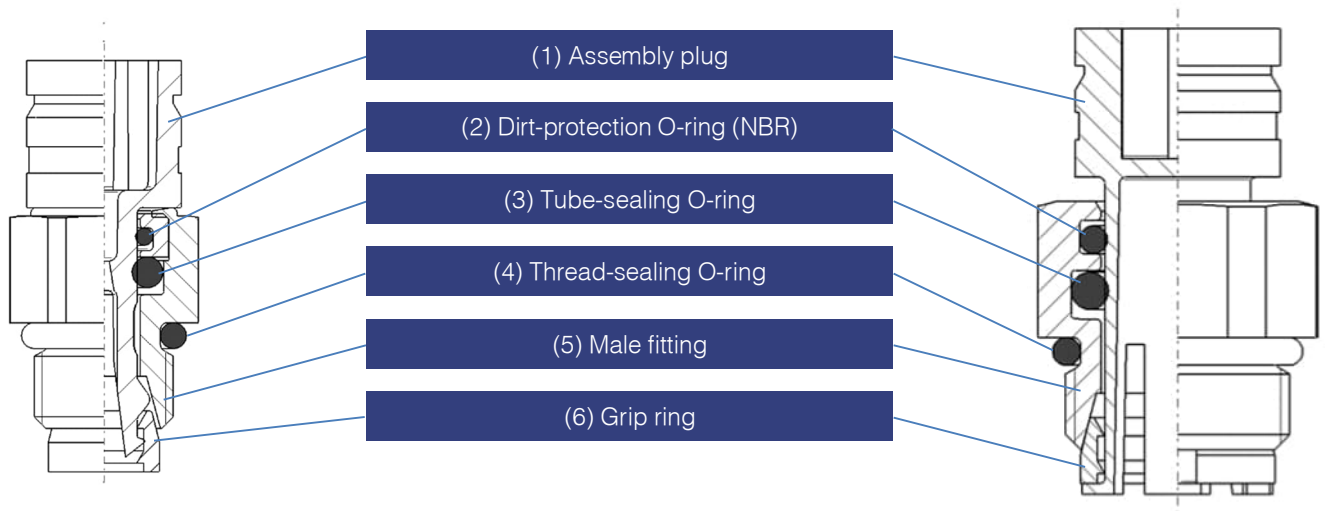

Fig. 1: Components of the assy VOSS quick connect system 203 (left: NS 4, right: NS 8)
With the integral variant a so-called assy is preassembled into a system specific profiled bore. The assy mainly consists of the male fitting (pos. 5 in fig. 1) and the grip ring (pos. 6 in fig. 1). Together with the PE/POM assembly plug (pos. 1 in fig. 1) these two parts form an assy that can be screwed directly into a system component. Upon completion of the installation and before inserting the tube the assembly plug is removed.
- The sealing of the inserted tube against the medium is made by an O-ring (pos. 3 in fig. 1).
- A second O-ring (pos. 2 in fig. 1) prevents the ingress of dirt from the environment.
- The grip ring (pos. 6 in fig. 1) holds the inserted tube in the connection. The grip ring features two retaining edges on the inside which engage in the nylon tube after it is inserted and pulled back.